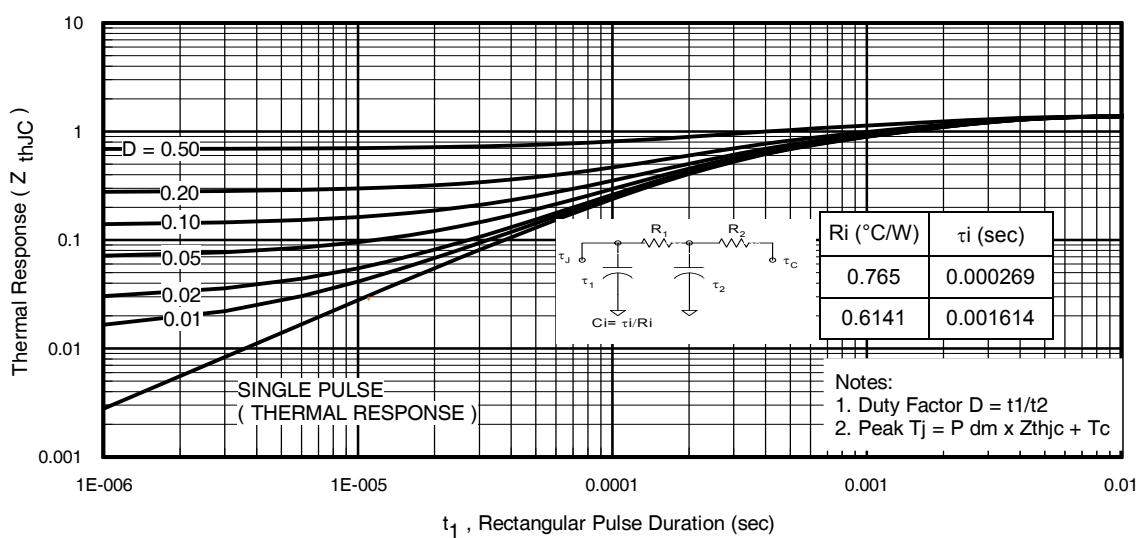
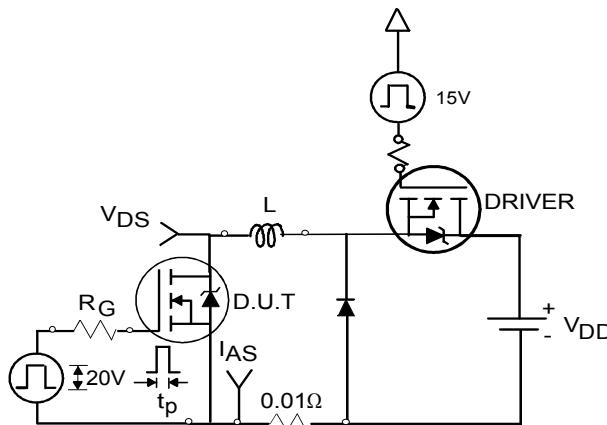

Fig 11. Maximum Effective Transient Thermal Impedance, Junction-to-Case
Fig 12a. Unclamped Inductive Test Circuit
- ① Repetitive rating; pulse width limited by max. junction temperature. (See fig. 11)
- ② Limited by $T_{J\max}$, starting $T_J = 25^\circ\text{C}$, $L = 0.089\text{mH}$, $R_G = 25\Omega$, $I_{AS} = 36\text{A}$, $V_{GS} = 10\text{V}$. Part not recommended for use above this value.
- ③ Pulse width $\leq 1.0\text{ms}$; duty cycle $\leq 2\%$.
- ④ $C_{oss\ eff.}$ is a fixed capacitance that gives the same charging time as C_{oss} while V_{DS} is rising from 0 to 80% V_{DSS}
- ⑤ Limited by $T_{J\max}$, see Fig.12a, 12b, 15, 16 for typical repetitive avalanche performance.
- ⑥ This value determined from sample failure population, starting $T_J = 25^\circ\text{C}$, $L = 0.089\text{mH}$, $R_G = 25\Omega$, $I_{AS} = 36\text{A}$, $V_{GS} = 10\text{V}$.
- ⑦ When mounted on 1" square PCB (FR-4 or G-10 Material). For recommended footprint and soldering techniques refer to application note #AN-994
- ⑧ R_θ is measured at T_J approximately 90°C .
3. Equation below based on circuit and waveforms shown in Figures 12a, 12b.